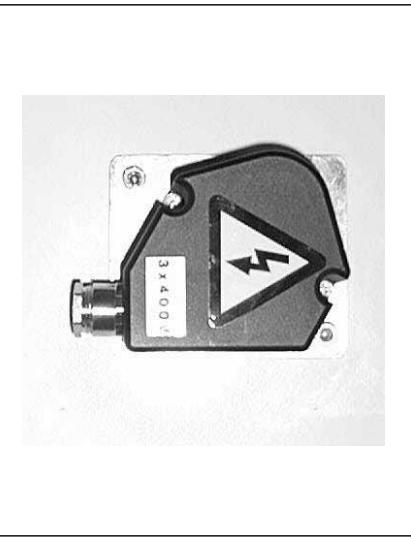

Fig.3
- Open the electrical connection box at the back of the machine (fig. 3).